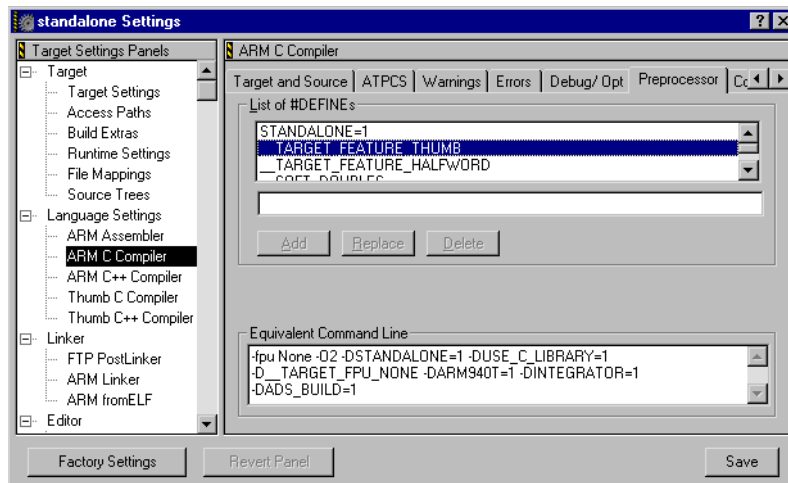

Figure 5-10 Compiler preprocessor settings
- a. Set the project defines to match your build target. Select the **Preprocessor** tab to set defines for the compilers (see Figure 5-10).